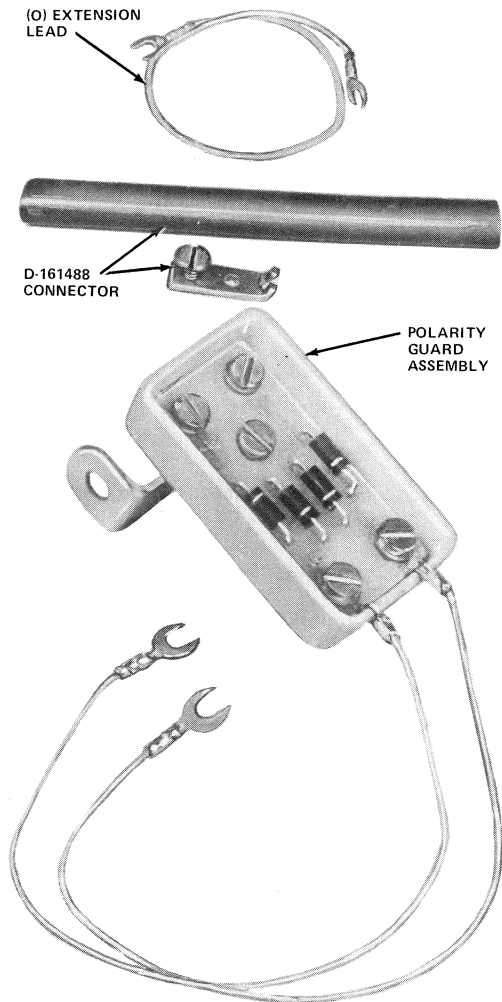

Fig. 63—D-180893 Kit of Parts (Polarity Guard)
**5.54** The D-180893 Kit of Parts (polarity guard) is mounted on the bottom left-hand corner of the dial housing (looking at the rear of the housing), directly below TB2. The lower left-hand mounting screw is removed from the housing and inserted into the mounting bracket of the kit. The kit is then fastened into place by inserting the screw into the same hole it was removed from. See Fig. 63.
**5.55** For D-180893 Kit of Parts (polarity guard) connections to 1C2/2C2 coin telephone set, DTF mode only, refer to Fig. 63 and to Table R.